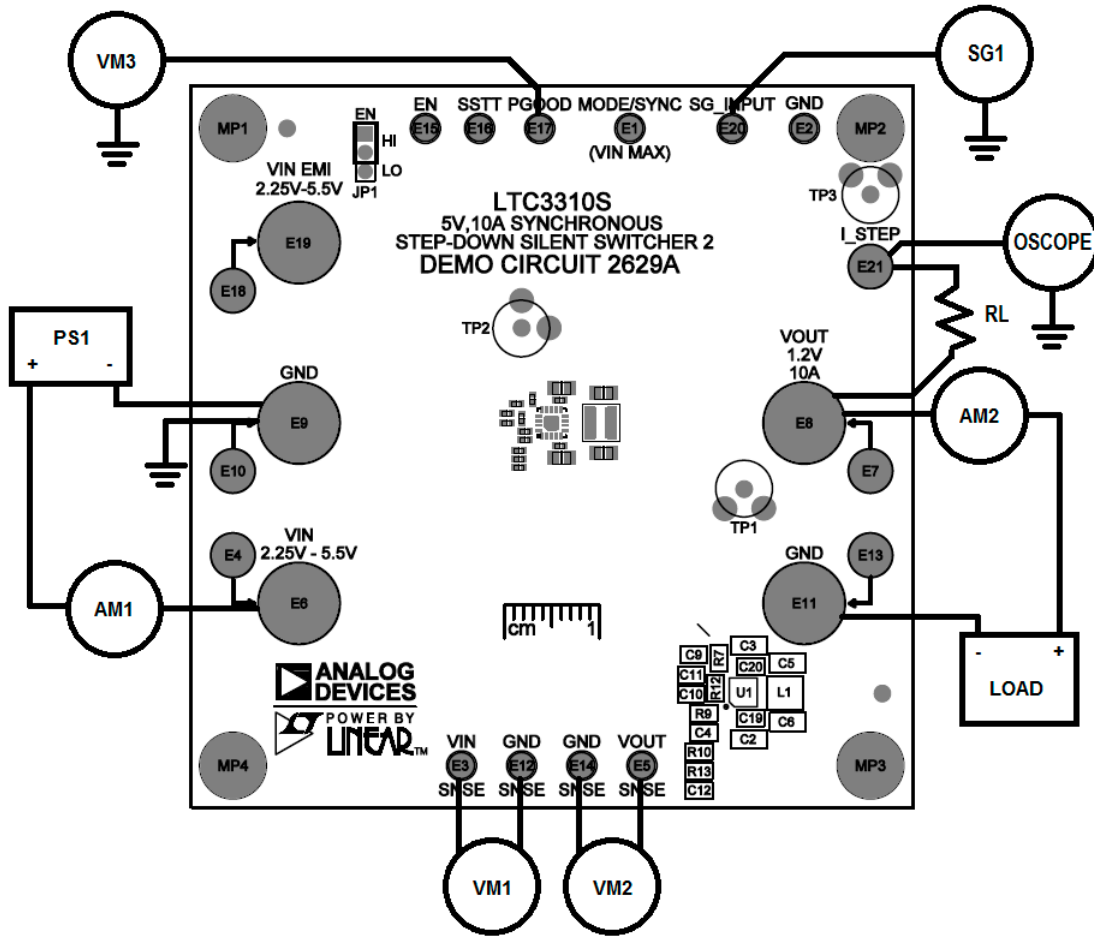
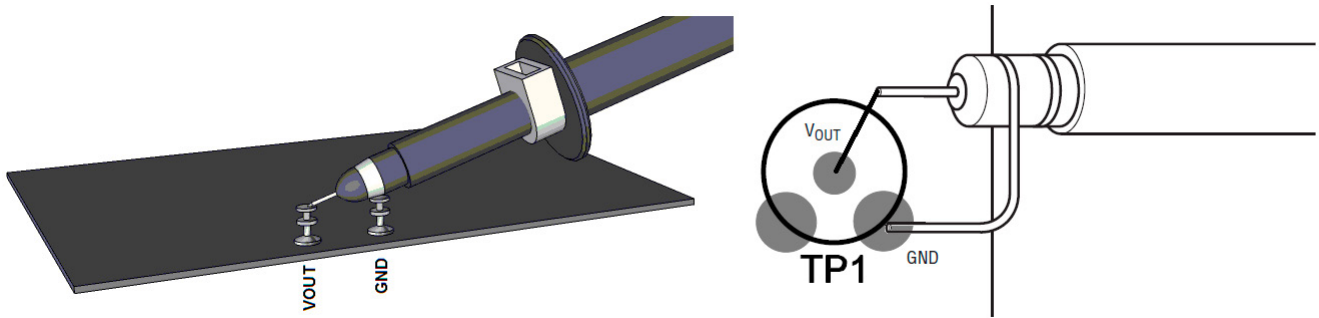

Figure 1. Test setup for the DC2629A Demo Board
Figure 2. Technique for Measuring Output Ripple and Step Response
Demonstration circuit 2629A is easy to set up and evaluate the performance of the LTC3310S. Refer to Figure 1 for proper measurement equipment setup and follow the procedure below:
NOTE: For accurate  $V_{IN}$ ,  $V_{OUT}$  and efficiency measurements, measure  $V_{IN}$  at the  $V_{IN}$  SNSE and GND SNSE turrets and  $V_{OUT}$  at the  $V_{OUT}$  SNSE and GND SNSE turrets as illustrated as VM1 and VM2 in Figure 1. When measuring the input or output voltage ripple, care must be taken to avoid a long ground lead on the oscilloscope probe. Measure the output voltage ripple by touching the probe tip directly across the output turrets or to TP1 as shown in Figure 2.
3. Slowly increase PS1 to 1.0V. If AM1 reads less than 20mA, increase PS1 to 3.3V. Verify that VM1 reads 3.3V and VM2 reads 1.2V. Record VM1, VM2, VM3 AM1 and AM2. Connect an oscilloscope voltage probe as shown in Figure 2. Set Channel to AC coupled, voltage scale to 20mV and time base to 10 $\mu$ s. Record  $V_{OUT}$  ripple voltage. Verify that PGOOD voltage is above 3V. Calculate Die temperature using formula below:
7. To test the transient response with a base load, add the desired resistor to produce a minimum load between  $V_{OUT}$  and I\_STEP turrets (RL shown on Figure 1). Note that the total load resistance will be RL plus R14 (100m $\Omega$ ). Adjust a signal generator with a 10ms period, 10% duty cycle and an amplitude from 1V to 2V to start.